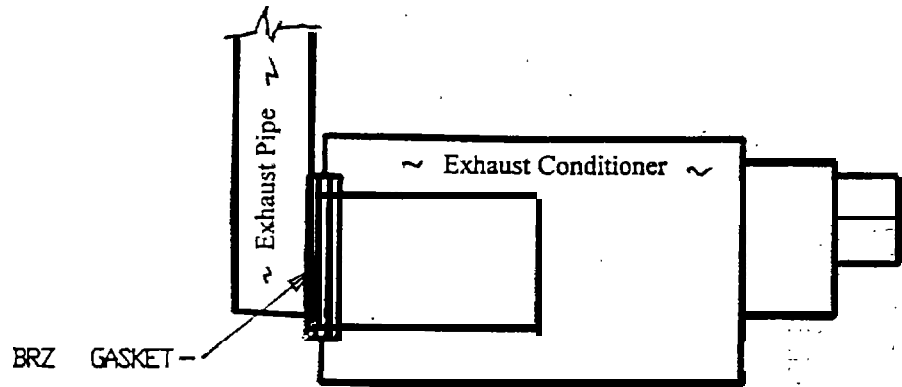

Figure 10. Gasket Between Exhaust Pipe
- (WEEKLY) 18. ( ) A bronze gasket is installed between the flange of the exhaust pipe and the flange of the exhaust conditioner as shown in Figure 10..